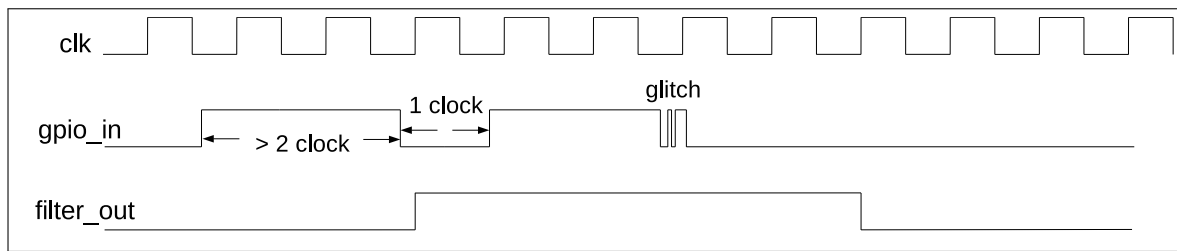

Figure 5-4. Filter Timing of GPIO Input Signals
2. Optionally enable the filter for pin input signals by setting `IO_MUX_GPIO n _FILTER_EN`. Only the signals with a valid width of more than two clock cycles can be sampled, see Figure 5-4.